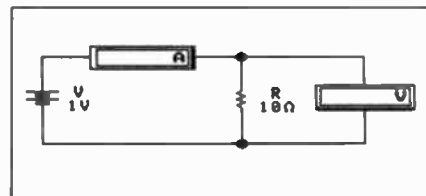

Fig. 1.14. Adding a voltmeter to the circuit.
- Now modify the circuit to include a voltmeter (as shown in Fig. 1.14). Set the resistance value once again to "10Ω" and the battery voltage to "1V".